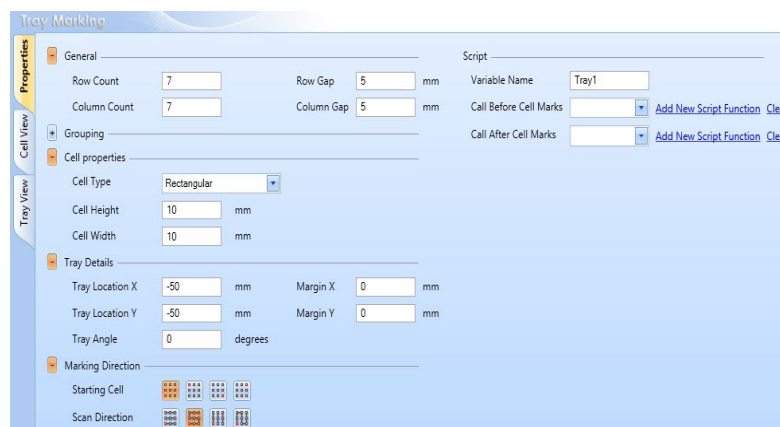

Figure 3 - Tray Configuration
e.g.: 10x10mm rectangle cell type with 7x7 row-column has 5mm gap for row and column and tray location is (-50, -50) with 0mm margin and starting cell is lower left and marking direction horizontal bi-directional having default script setting seen **Figure 3 - Tray Configuration** (below)